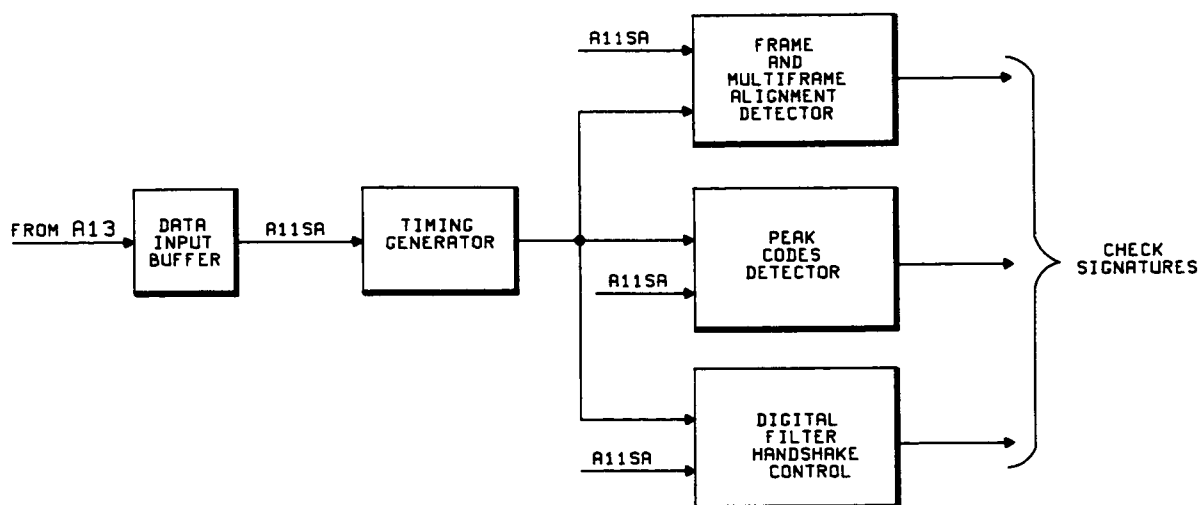

Figure A11-3 Signature Analysis
A11-21 Due to the complexity of the A11/A111 Assembly, fault finding is performed using signature analysis (SA) and self test routines. These routines are stored in special utility programs, see GENERAL SERVICE SHEET G6. Figure A11-3 illustrates the circuits checked by SA.
A11-22 The SA routine on A13 generates the A11 SA signal. This signal sets the circuits in Figure A11-3 to their SA mode.
A11-23 In the SA mode the Timing Generator is continuously incremented. Its outputs are applied to the circuits illustrated in Figure A11-3 and the signatures monitored (see GENERAL SERVICE SHEET G6).